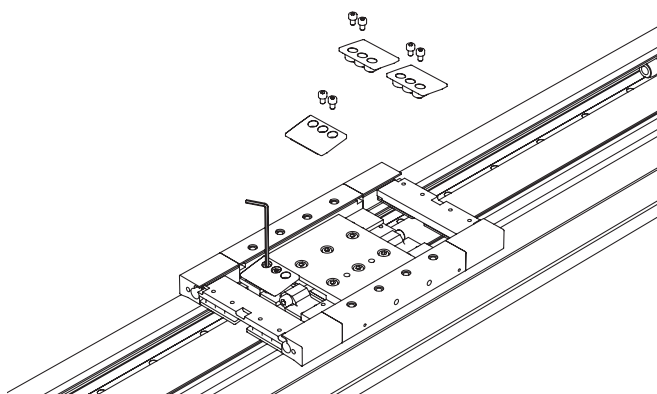

Fig. 7.13 Removing/mounting the cover strip guide
- ▶ If necessary, replace the cover strip guides on the top of the carriage profile and the bottom of the cover strip deflection (see Fig. 7.13).